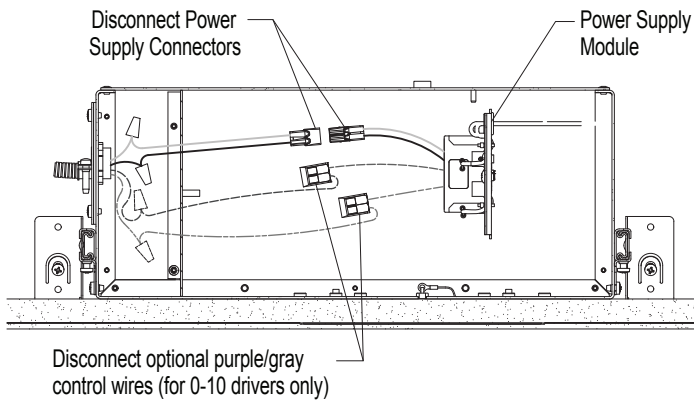

FIG 5.2 Remove Power Supply Module & disconnect wires
Step 3 Pull Power Supply Module away from threaded stud and pull wires & Power Connectors out of the Junction Box-FIG 5.2.
Step 4 Disconnect Power Supply Connectors. For models with 0-10 drivers, also disconnect purple & gray wires-FIG 5.2.